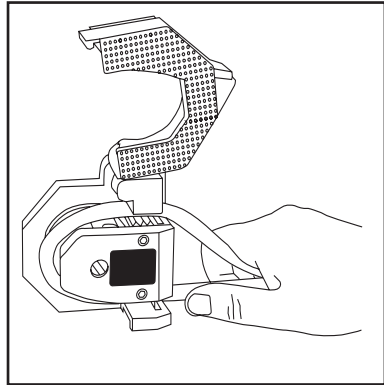

Figure 5-2. Loading the Tubing
2. Refer to Figure 5-2 and Figure D. Loop the Tubing (10) over the rollers. This is easy to do for stacked pumps.